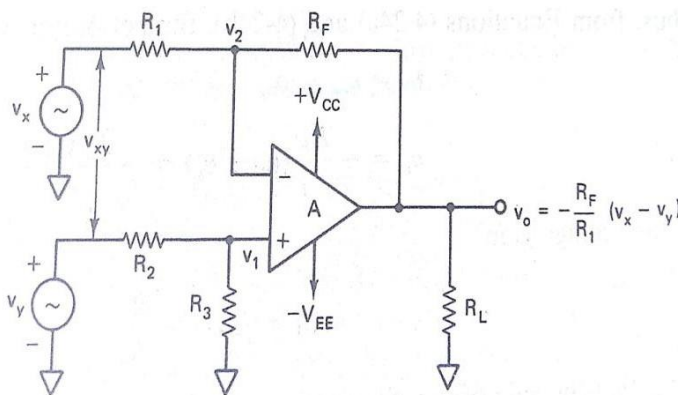

Figure 4-14 Differential amplifier with one op-amp. $R_1 = R_2$ and $R_F = R_3$.
- Figure 4.14 shows the diagram of difference amplifier
- A close examination of the figure 4-14 reveals that difference amplifier is a combination of inverting and non-inverting amplifiers i.e. when $V_x = 0$, circuit is a non-inverting amp.
- The circuit in the figure 4-14 has two inputs V_x and V_y . Therefore we use super position theorem in order to establish the relationship between inputs and output.
- **Example:** In the circuit of figure 4-14, $R_1=R_2=1K\Omega$, $R_f=R_3=10K\Omega$, and the op-amp is a 741C, a) what are the gain and input resistance of the amplifier?